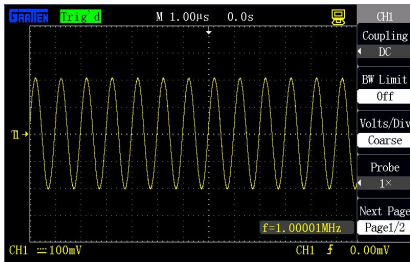

Figure 2-11 Coarse tuning
- Press **[CH1]**→**"Volt/div"**→**"Coarse tuning"**, and determine the vertical gear by a 1-2-5 stepping mode in coarse tuning, as shown in figure 2-11.